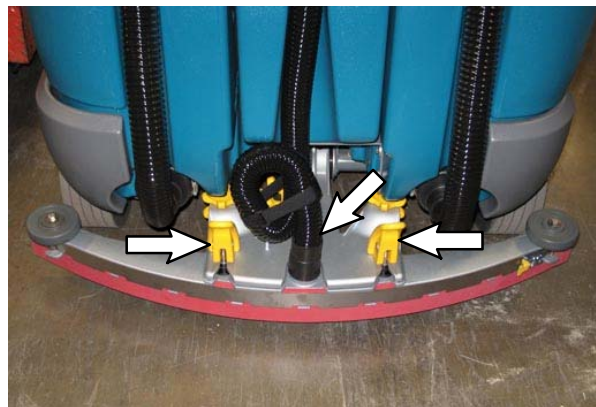

FIG. 1
3. Disconnect the vacuum hose from the rear squeegee assembly and remove the rear squeegee assembly from the machine. Set the rear squeegee assembly aside. (Fig. 1)